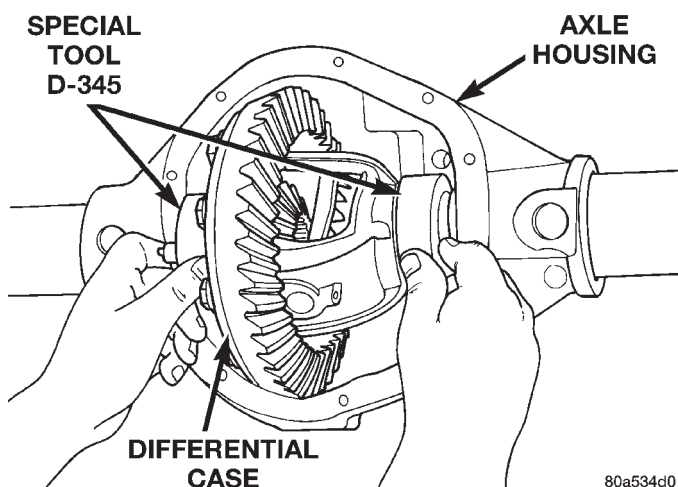

Fig. 64 Install Differential Case W/Dummy Bearings
- (1) Remove differential side bearings from differential case.
- (2) Remove factory installed shims from differential case.
- (3) Install ring gear on differential case and tighten bolts to specification.
- (4) Install dummy side bearings D-345 on differential case.
- (5) Install differential case in axle housing (Fig. 64).